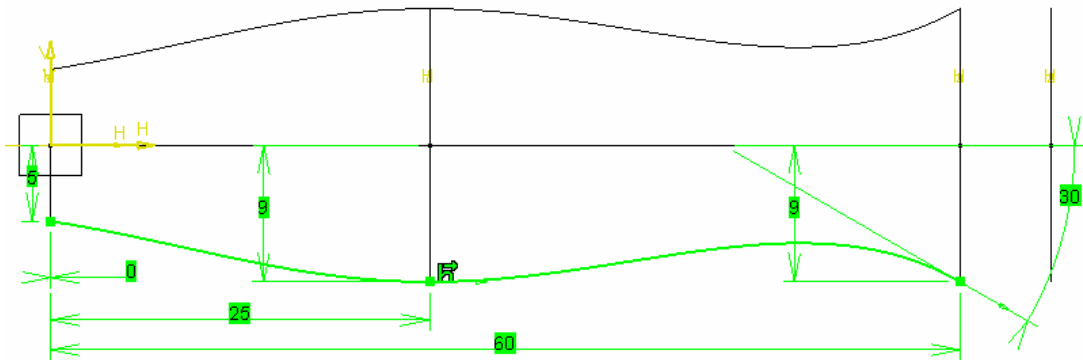

Fig. 18
For the 4th guide curve, select the horizontal center plane parallel to the (XY) plane and create the following sketch. You will name this sketch “**A4 guide**» (fig. 18):